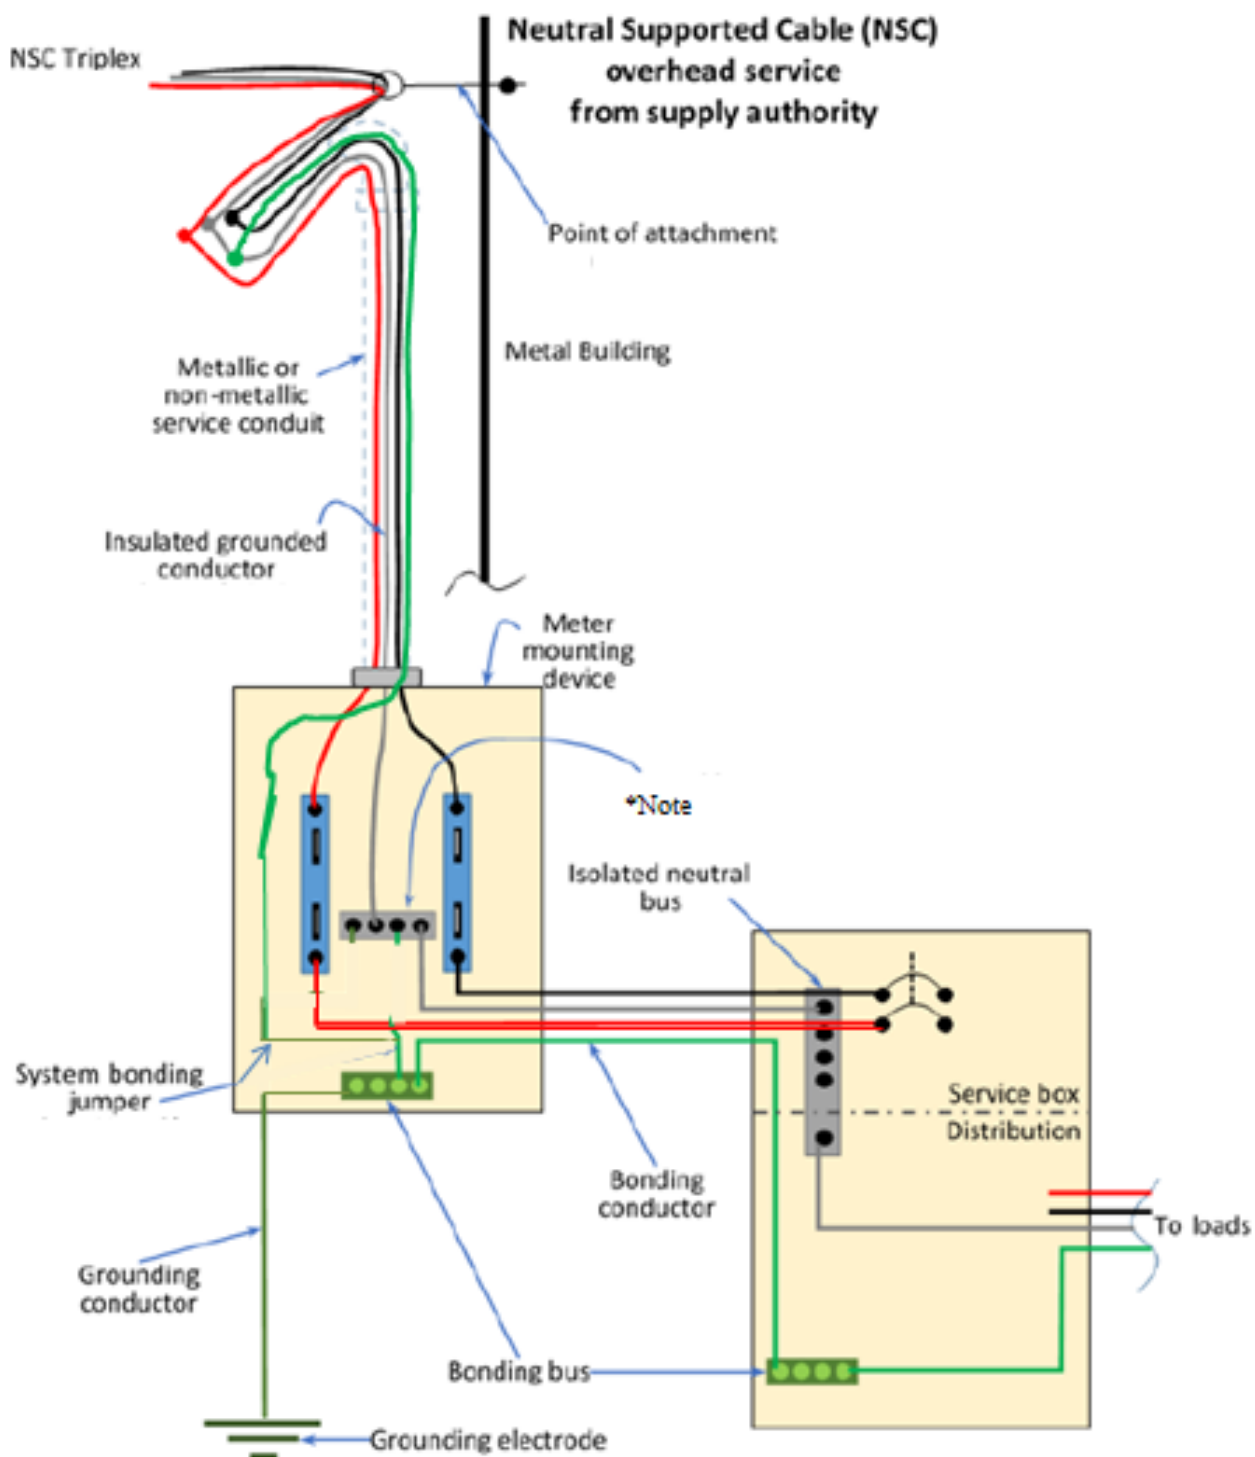
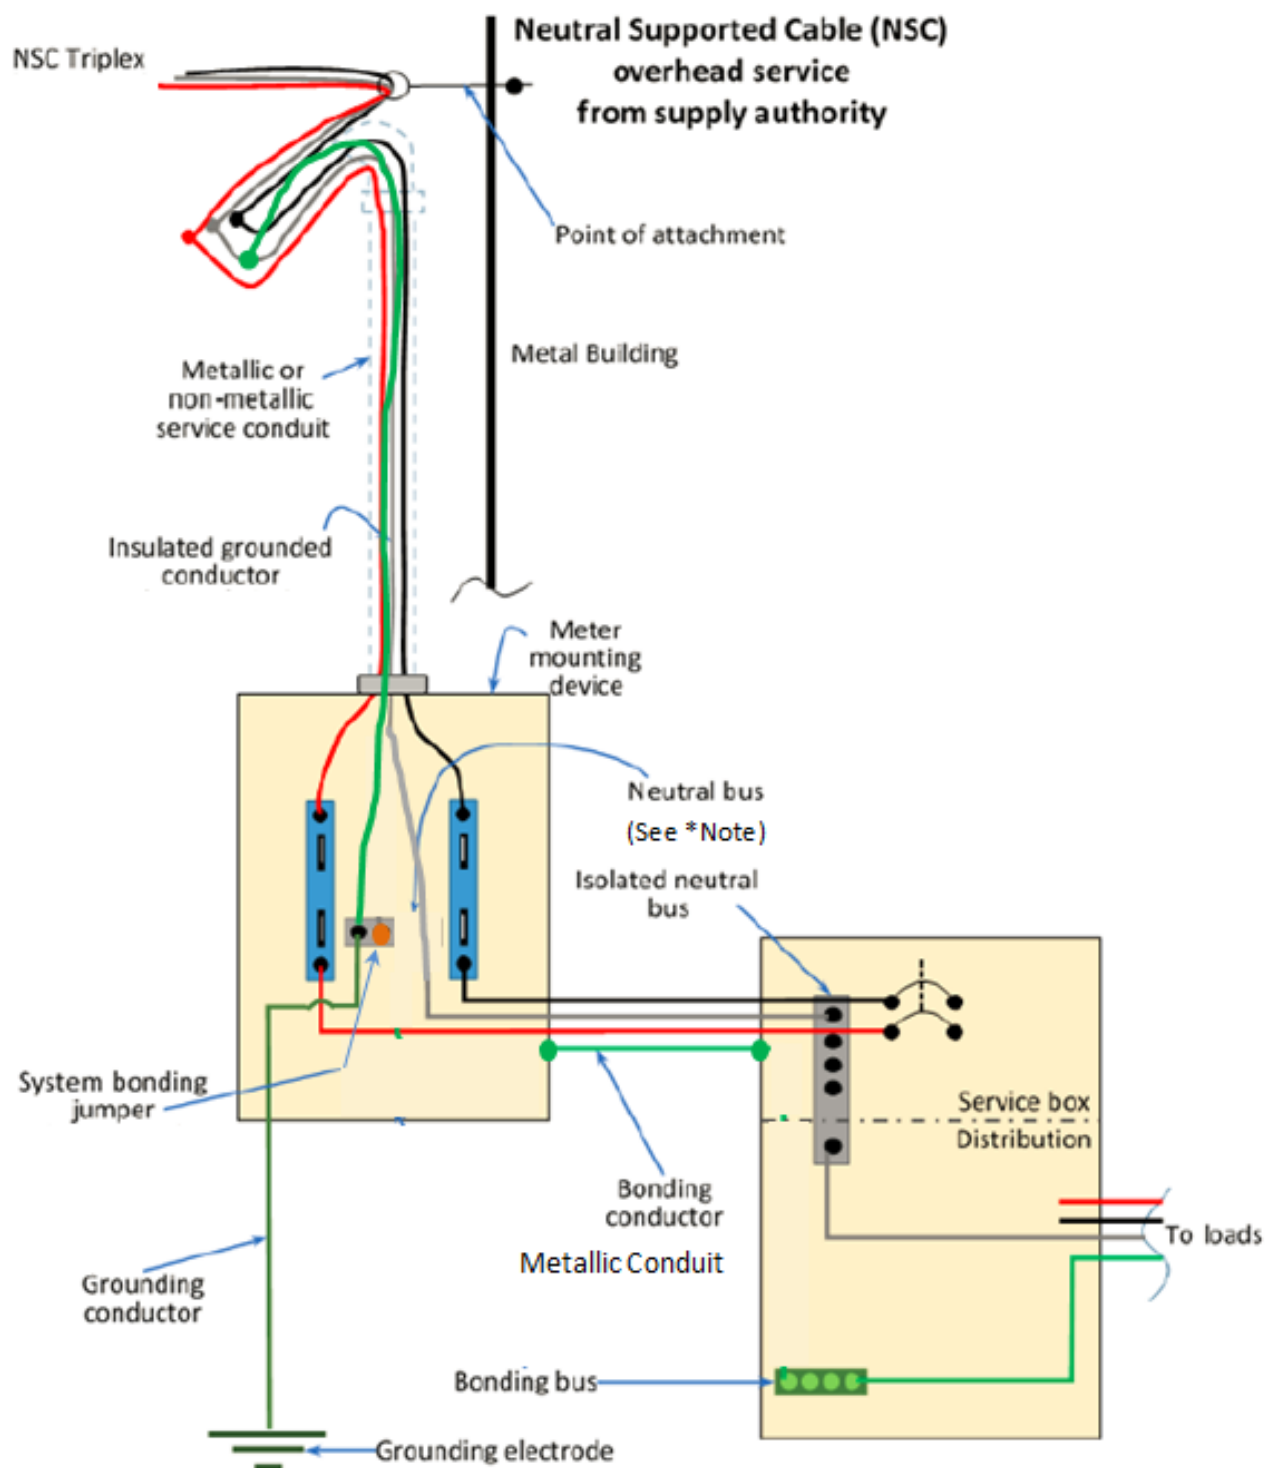

Figure 3
Figure 3a
**Item #4 –Excerpt from 2018 CEC Rule 10-004, 10-100, 10-210, 10-500, 10-614, - see New Table 16 & New Figure 3 & Figure 3a**